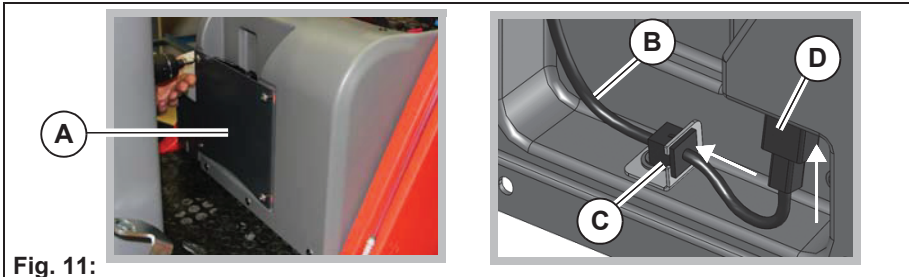

Fig. 11:
1. Remove the cover **Fig. 11-A**.
2. Route the cable of the mains plug **Fig. 11-B** through the opening in the bracket **Fig. 11-C**. Ensure that the side of the strain relief without a latch faces the front towards the opening.
4. Plug the mains plug **Fig. 11-D** straight and firmly into the holder.